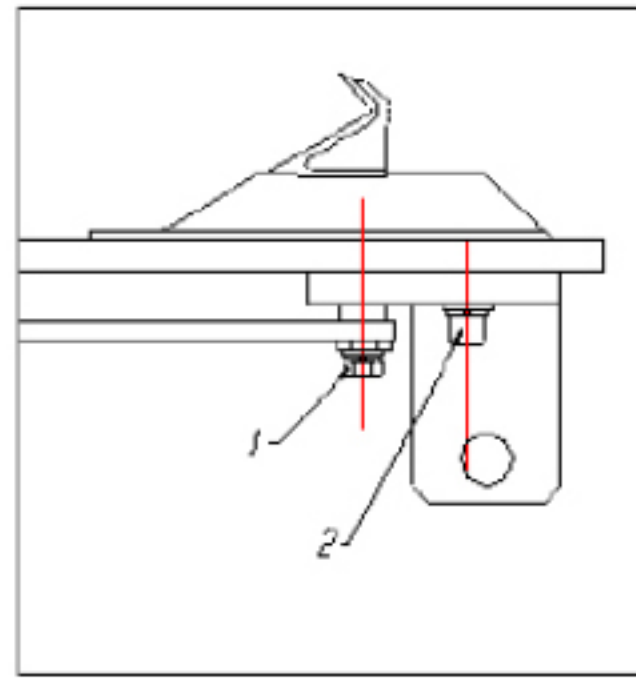

Figure 5-2
- c. Retighten the clamp tightening screws (1) and the screws on the turntable sliders (2) (figure 5-2)